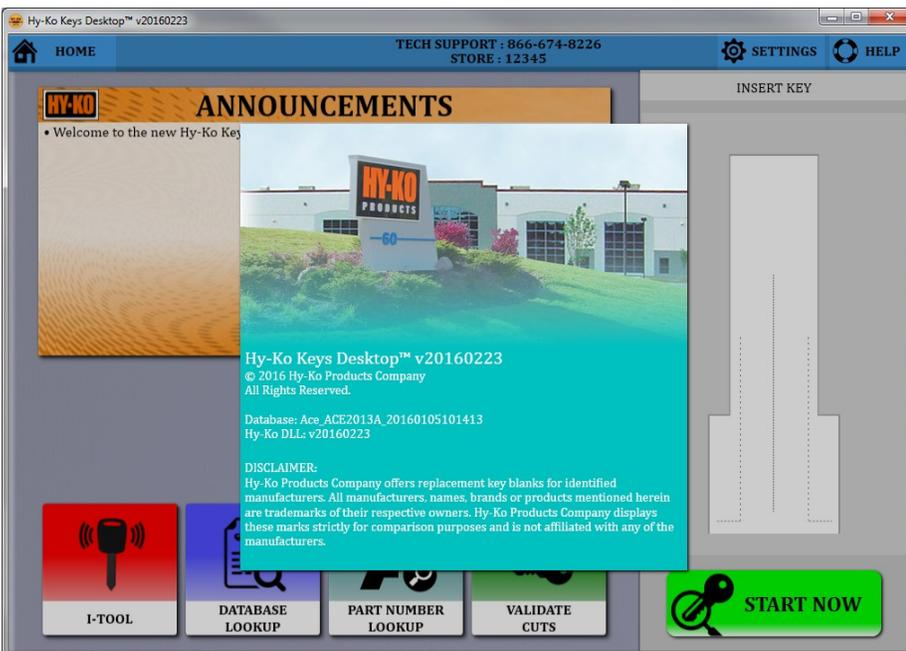

fig. 121
- The **'ABOUT'** button will bring up a disclaimer and show you the software version as well as the database version (see fig. 121).